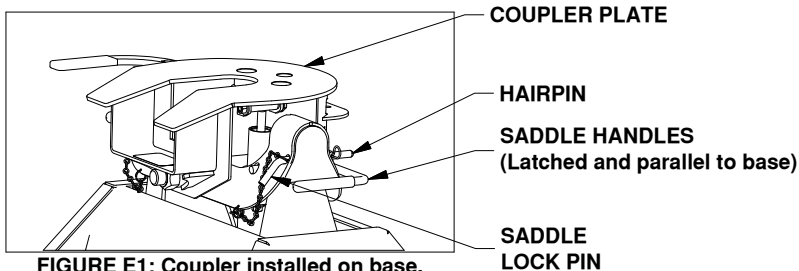

FIGURE E1: Coupler installed on base.
1. Lubricate the polyurethane bushings on top of the pivot arms with high grade lithium grease (available at your local hardware/automotive store). Place the coupler over the pivot arms. (The saddle handles should be parallel with the base in the latched position.) Place the saddle lock pins through the saddle, then insert the hairpins through the holes in the end of the saddle lock pins to secure the coupler to the pivot arms, see Figure E1.